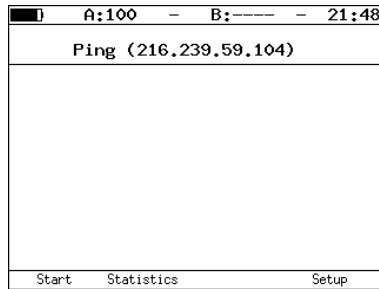

Figure 5.56. Ping menu
2. Switch to the *Ping* menu (see fig. 5.56). Press **F4** button (*Setup*).